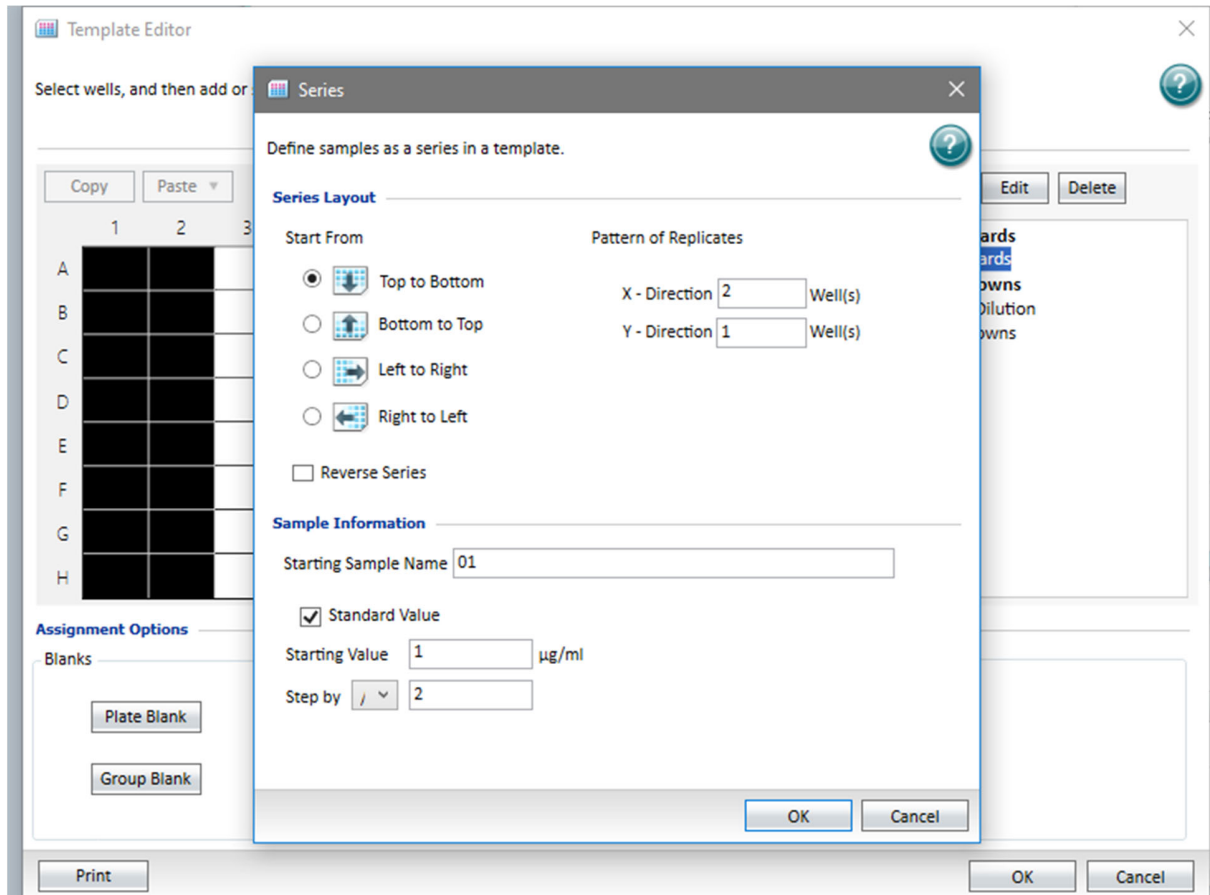

Figure 12: Options to define a serial dilution standard
- a new window will open (see figure 12)